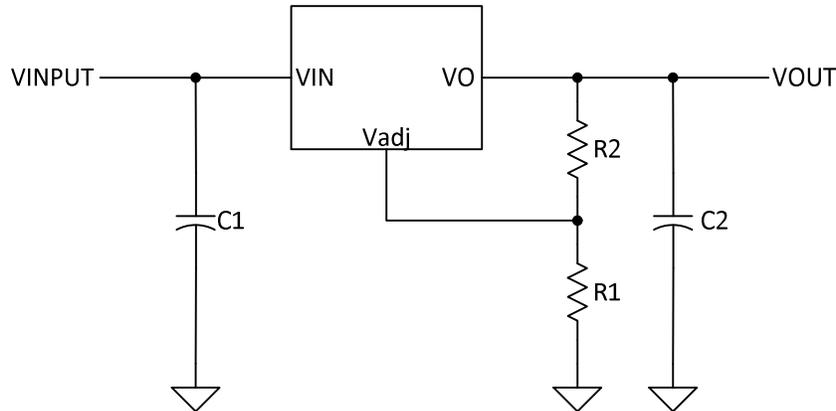

Figure 8: Three-terminal adjustable voltage regulator
An adjustable voltage regulator is used when the needed voltage is not one of the standard values available in fixed types. A common part number is the LM337 and is shown in Figure 8. In operation the internal circuitry maintains a constant voltage known as  $V_{REF}$  (typically 1.25) between the  $V_{adj}$  and  $V_O$  terminals. That forms a constant current through  $R_2$  since the voltage across it is fixed. Generally,  $R_2$  must be small enough so that the constant current is at least 10 milliamperes in order for the regulator to operate properly – this data is in the application notes which should always be consulted. There is a small current leaving the  $V_{adj}$  terminal and the constant current should be very large in comparison to minimize errors. With a constant current through  $R_2$  then there is a constant current through  $R_1$  and the output voltage is simply the voltage across  $R_1$  plus the internal reference voltage of the regulator. This can be expressed as an equation as
3. In Figure 8 if  $V_{ref}$  is 1.25 volts and  $R_2$  is 100 ohms and  $R_1$  is 620 ohms, what is the output voltage? (answer: 9.0 volts)
4. In Figure 8 if  $V_{ref}$  is 1.25 volts, and  $R_2$  is 100 ohms, what must the value of  $R_1$  be so that the output voltage is 6.125 volts? (answer: 390 ohms)